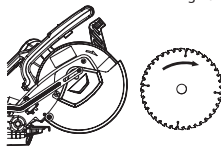

Fig.20
- To install the blade, mount it carefully onto the spindle, making sure that the direction of the arrow on the surface of the blade matches the direction of the arrow on the blade guards (Fig.20).